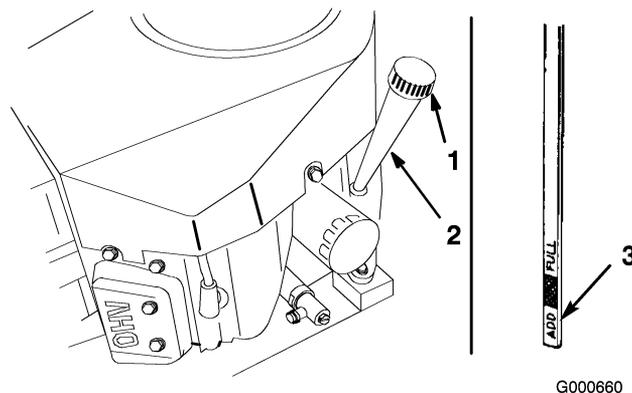

Figure 31
2. Clean around the oil dipstick (Figure 31) so that dirt cannot fall into the filler hole and damage the engine.
3. Unscrew the oil dipstick and wipe the metal end clean (Figure 31).
4. Slide the oil dipstick fully into the filler tube, but do not thread it onto the tube (Figure 31). Pull the dipstick out and look at the metal end. If the oil level is low, slowly pour only enough oil into the filler tube to raise the level to the full mark on the dipstick.
6. Clean around the oil dipstick and unscrew the cap (Figure 31).
7. Slowly pour approximately 80% of the specified oil into the filler cap (Figure 31). Refer to Servicing the Engine Oil in Engine Maintenance, page 28.